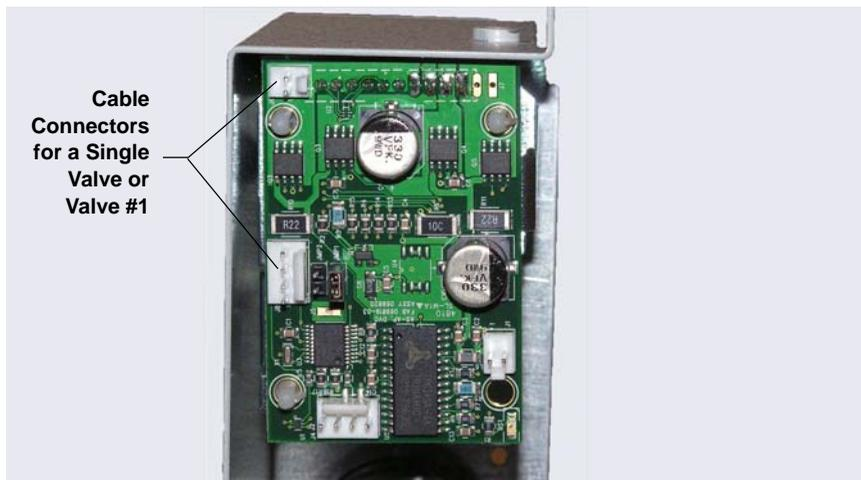
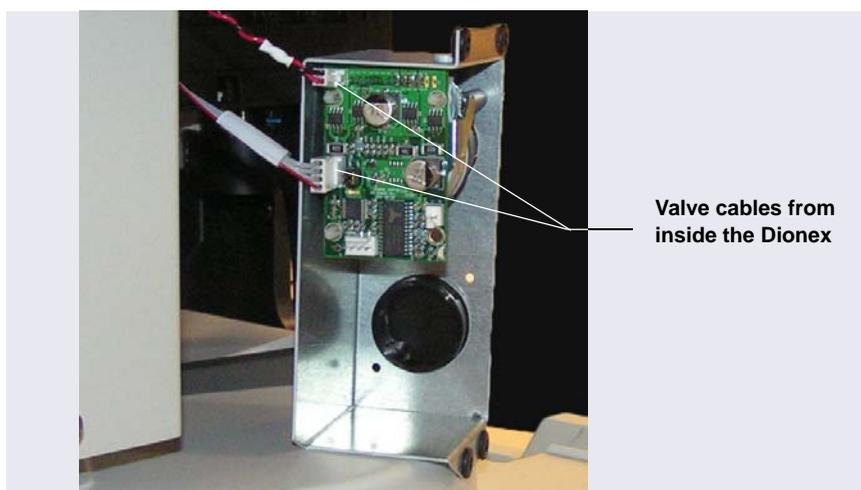

Figure C-3. Cable Connectors on Valve Electronics Board
Figure C-4. Valve Cables Connected to Valve Electronics Board (Single Valve Configuration Shown)
5. Locate the two valve cables inside the Dionex AS-AP in the upper-left back corner. Connect these two cables to the connectors on the electronics board attached to the rear of the valve (see Figure C-3 and Figure C-4).